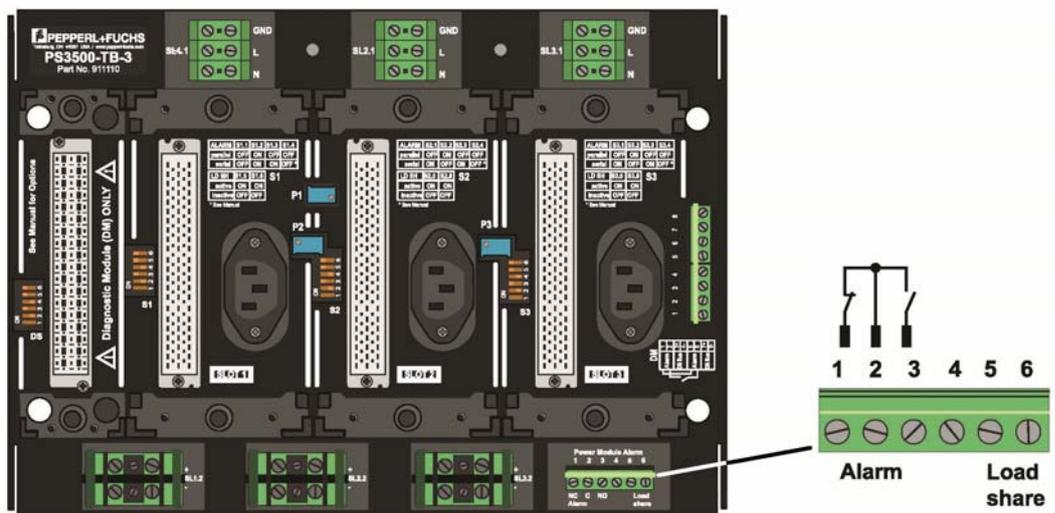

Figure 4.5 Alarm Configuration, Power Module Alarm Terminal
When the alarms are configured to the lower right terminals, as shown in Figure 4.5, there are two configurations, parallel alarm or serial alarm. When configured as a parallel alarm relay, contacts one (1) and two (2) close during an alarm situation. When configured as a serial relay, contacts two (2) and three (3) open during an alarm situation.